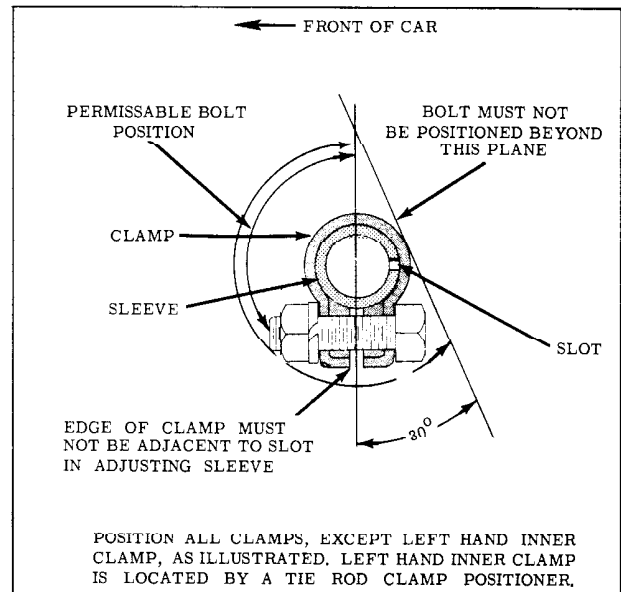

Fig. 5-20 Tie Rod Clamp Positions
- When adjustment has been completed according to the recommended specification, and tie rod and ball studs are riding squarely in their seats. Position inner clamps as shown in Fig. 5-20.